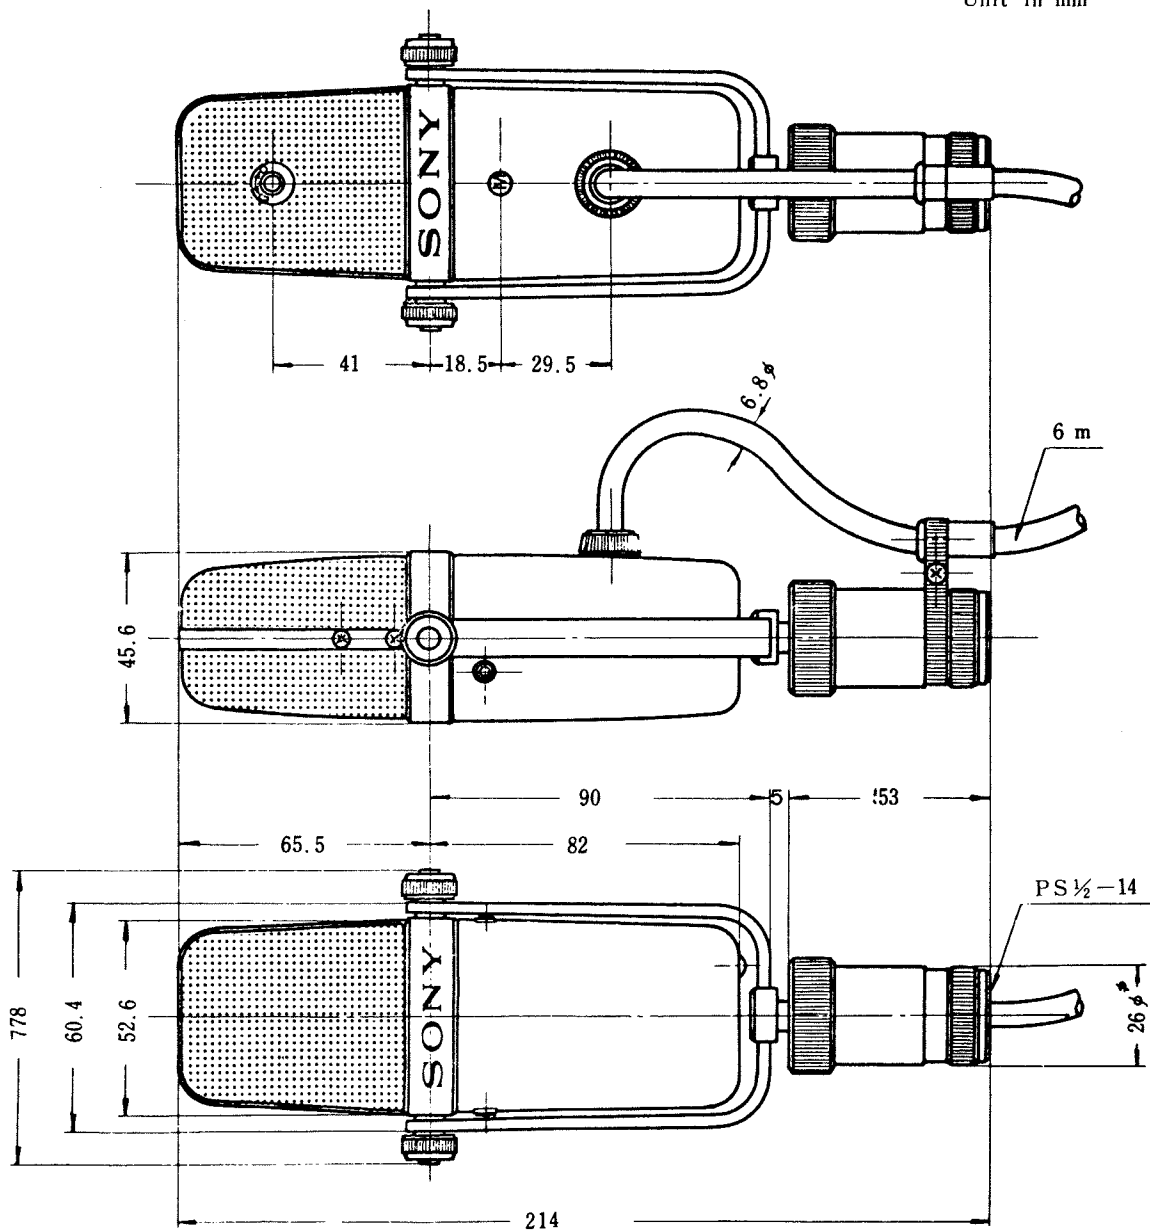

Fig. 1 Dimensions C37-FET Condenser Microphone
- 7) Dimensions : Shown in figure 1.